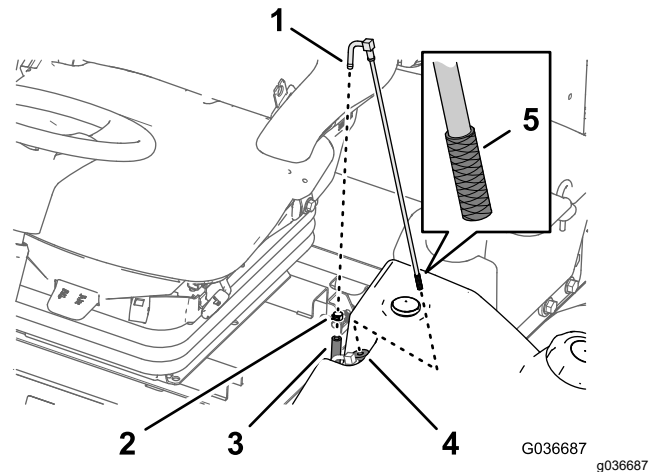

Figure 59
1. Remove the hose clamp that secures the fuel supply hose to the fitting of the fuel-pickup tube (Figure 59).
2. Separate the hose from the fitting (Figure 59).
3. Lift the fuel-pickup tube from the fuel tank (Figure 59).
4. Clean any debris from the screen at the end of the fuel-pickup tube (Figure 59).
5. Insert the fuel-pickup tube through the rubber bushing and into the tank (Figure 59).